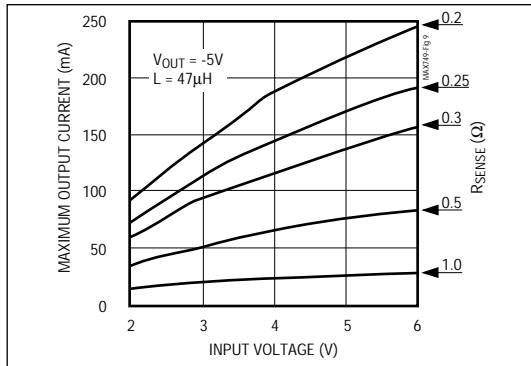

Figure 9a. Maximum Output Current vs. Input Voltage,  $V_{OUT} = -5\text{V}$
To maximize efficiency and reduce the size and cost of the external components, minimize the peak current. However, since the output current is a function of the peak current (Figures 9a-9e), the limit should not be set too low.
2. In Figures 9a-9e, locate the graph drawn for the appropriate output voltage (which is either the desired output voltage or, if that is not shown, the graph for the nearest voltage more negative than the desired output). On this graph find the curve for the highest  $R_{SENSE}$  (the lowest current limit) with an output current that is adequate **at the lowest input voltage**.
The theoretical design curves shown in Figures 9a-9e assume the minimum (worst-case) value for the current-limit comparator threshold. Having selected the current-sense resistor, the maximum current limit is given by  $180\text{mV}/R_{SENSE}$ . Use the maximum current-limit figure when choosing the transistor, coil, and diode.